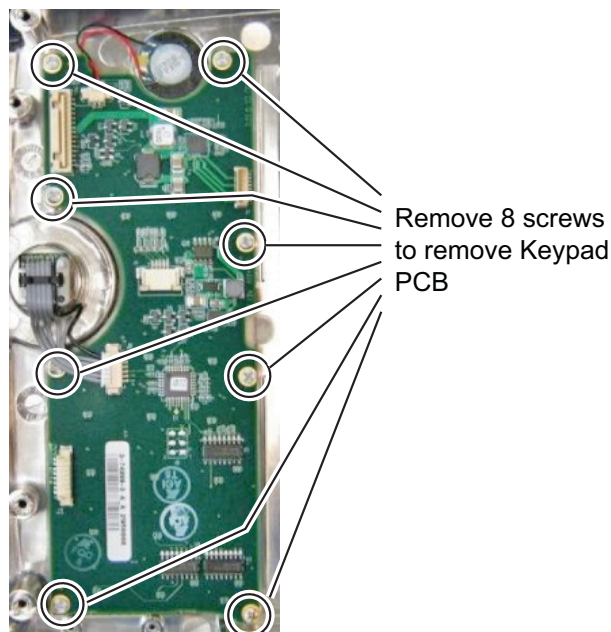

Figure 5-12. Keypad PCB
- Remove the 8 screws securing the Keypad PCB to the front panel and carefully lift it out. The rubber Keypad Membrane is located under the Keypad PCB (Figure 5-12).